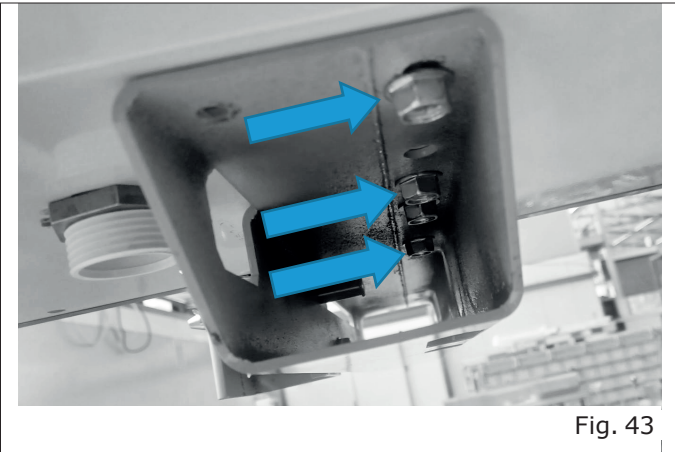

Fig. 43
- Fix the spar to the vertical upright, keeping it level with the bottom of the bench ("Fig. 41) and then fix it under the cabinet basin (Fig. 42" and "Fig. 43", "Pag. 30").